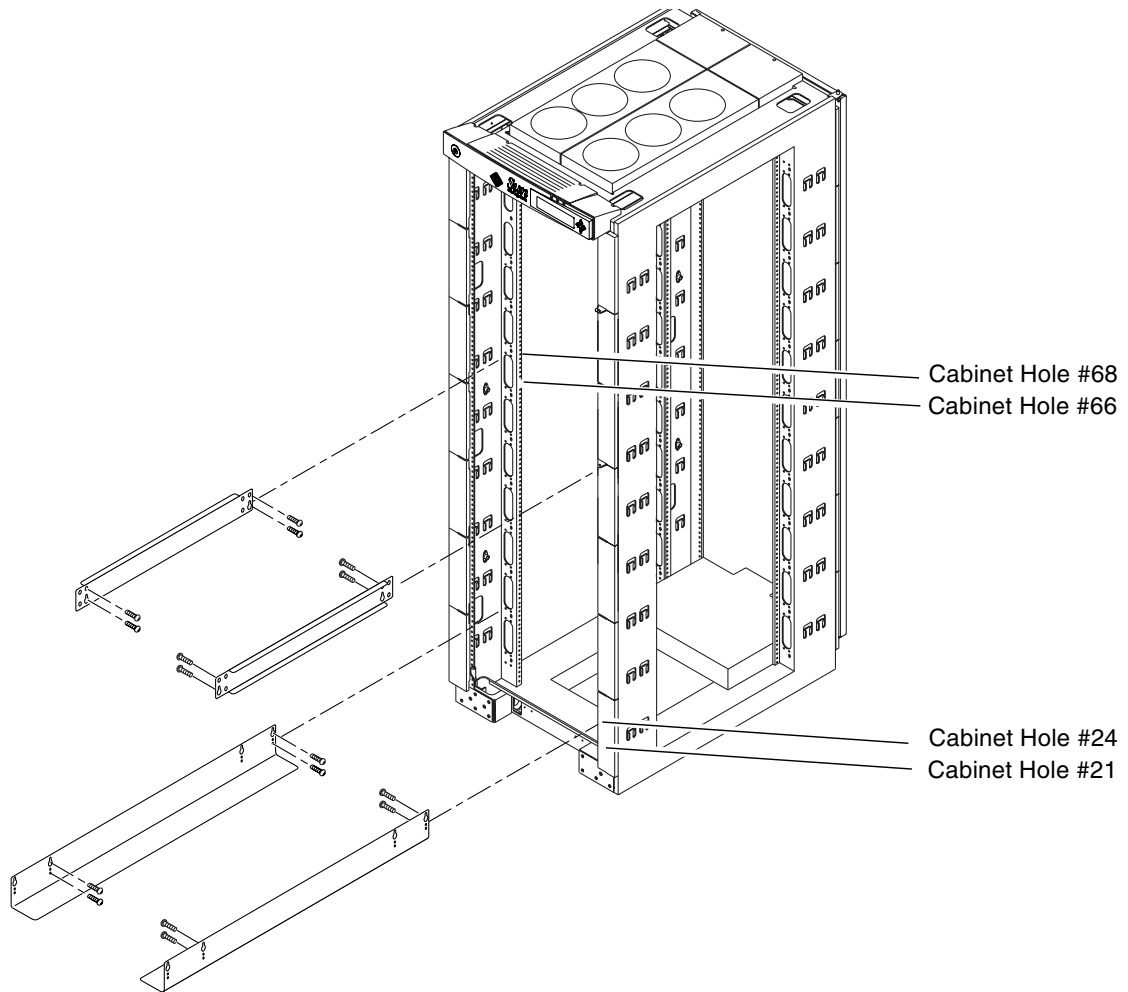

FIGURE 3-1 Rail Installation in a Sun Fire Cabinet
1. **Attach the rails to the Sun Fire cabinet using four screws for each rail (two screws through the hanger holes and two screws through the slots above the hanger holes). Cabinet holes numbers are shown in FIGURE 3-1.**